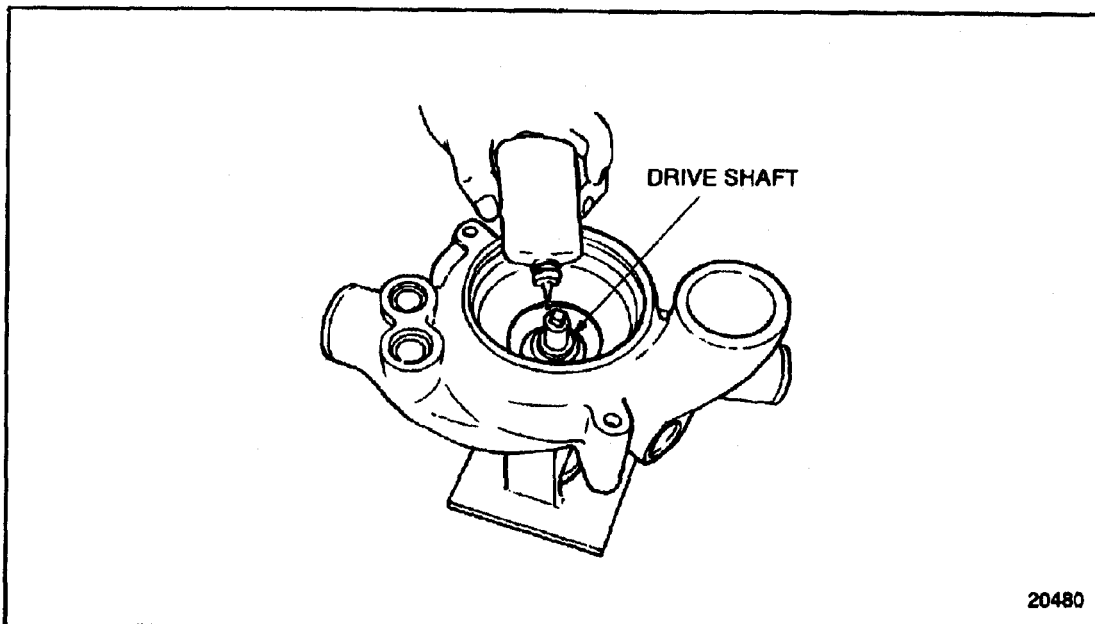

Figure 4-30 Sealant Installation (GCM)
19. Apply only one drop of Loctite® 290 sealant to the drive shaft where it contacts the water seal. The sealant will wick around the shaft making a complete seal. Wipe off excess sealant. See Figure 4-30.